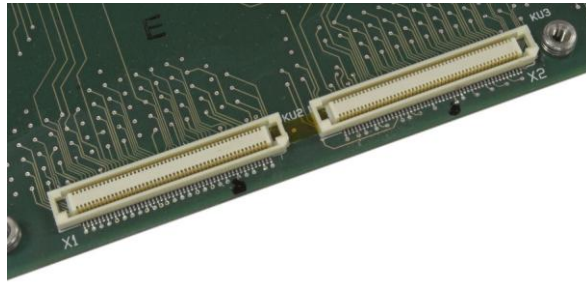
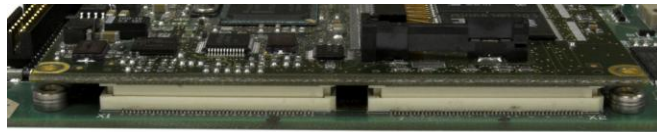

Figure 4-45: Close-Up View of ETX Connectors on Main PCB
Figure 4-46: ETX Board Resting on Connectors
2. Position the ETX board over its connectors. Figure 4-45 shows two of the connectors, and Figure 4-46 shows a side view of the board resting on its connectors.